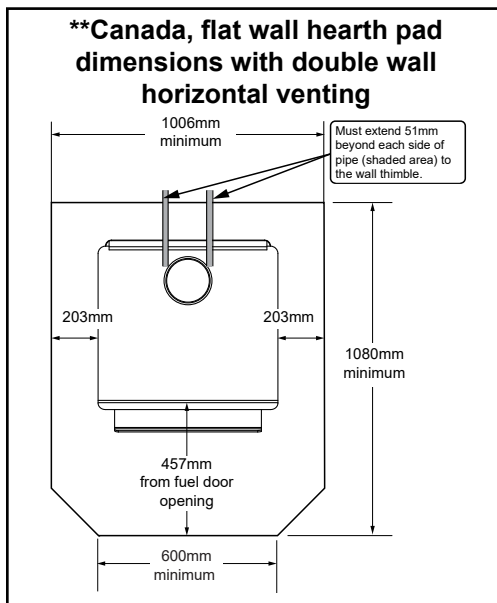

Figure 9.2 - **These dimensions will vary depending installation.
In Canada, similar floor protection must be provided 18 inches (457mm) in front and 8 inches (203mm) from the sides and rear of the appliance unless the hearth pad is placed against the wall (**Figure 9.2**). Then the clearance may be reduced using double wall pipe and the **Clearance to Combustibles** table listed on page 10.
***Exception:** Non-combustible floor protector must extend beneath the flue pipe when installed with horizontal venting and extend 2 inches (51mm) beyond each side; **See Figure 9.2**